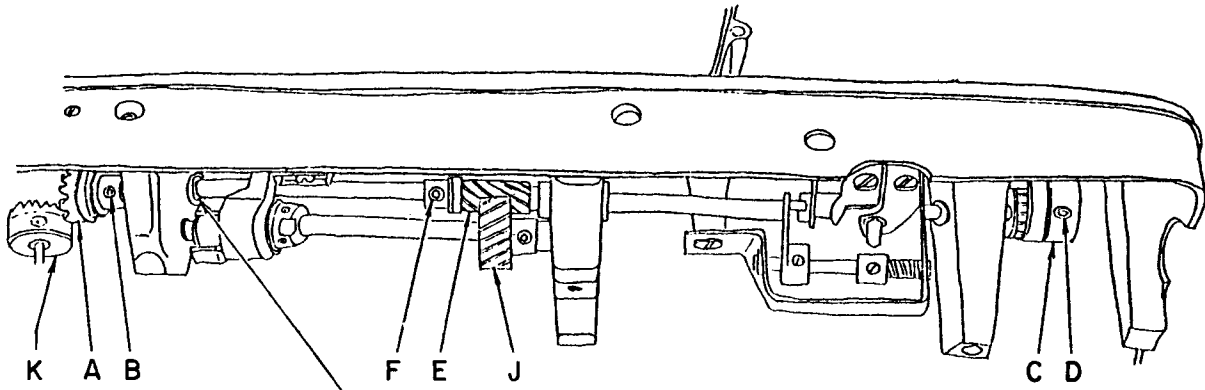

Fig. 30-2
9. Locate feed drive shaft driving gear set screw (F) on flat of hook drive shaft.
10. Position feed drive shaft driving gear (E) so that feed drive shaft gear (J) is located midway on the feed drive shaft driving gear (E) and tightens set screw (F). (Fig. 30-2).
11. Temporarily tighten set screws (D) in belt pulley (C). Run machine to check for proper mesh of hook drive gear (A) and rotating hook gear (K). Reset if necessary. See step 8.